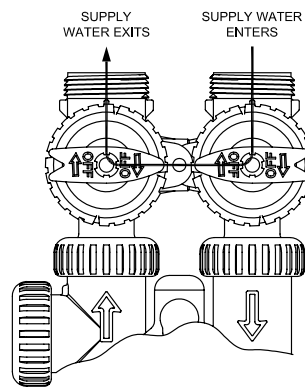
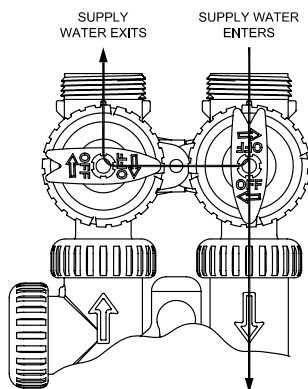

Figure 3
Figure 4
2. Place the bypass valve in the bypass position. (See figure 3 page 5) Turn on the main water supply. Open a cold soft water faucet to flush the piping of any air and/or foreign material. Run until the water is clear.
6. Push REGEN button and hold it down for 3 seconds. The system will advance to the "First" position. (Note: Depending on how the system is programmed it could read backwash, rinse, brine or fill). Keep pushing REGEN button until "Rinse" shows in the lower right hand corner of display. Slowly place the by-pass into the "diagnostic mode" (see fig 4, page 5). Run water to the drain until it runs clear. Return the by-pass valve to the by-pass position (fig 3, page 5). Push REGEN button until "Time" appears in upper left hand corner of display.